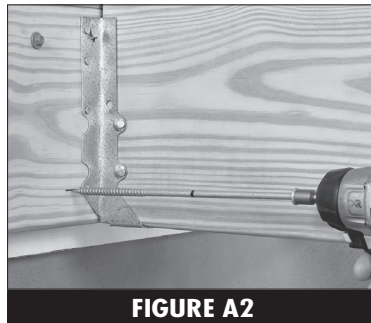

FIGURE A2
3. Place the point of the long screw at the intersection of this center line within 1-1/4" from the face of the deck joist. (Figure A2)